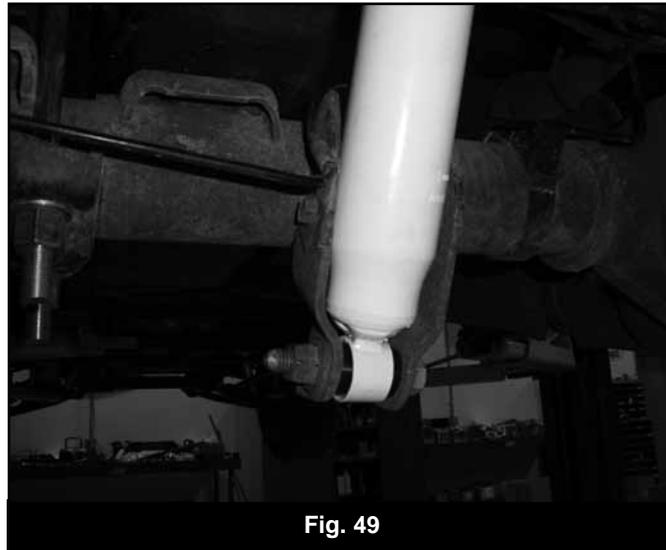

Fig. 49
16. Locate the brake line clamp bolt on the driver's side axle shock mount. This bolt must be trimmed flush with the inside surface of the bracket to avoid contact with the new shock (Fig 49). Trim the bolt with a reciprocating saw or cut-off wheel.